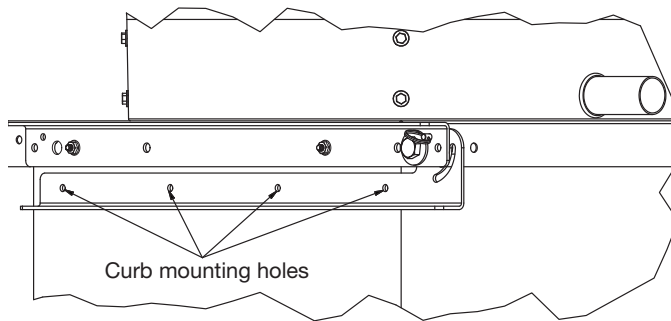

Figure 5
5. Insert the 1/2" bolt into the pivot hole of an upper bracket and its respective lower bracket. Also inset the detent pin or 1/4" shoulder bolt into locking hole in the upper bracket and lower locking hole of the lower bracket. While pressing the lower bracket against the roof curb and holding it level, mark the curb mounting holes using a marker. See Figure 5.